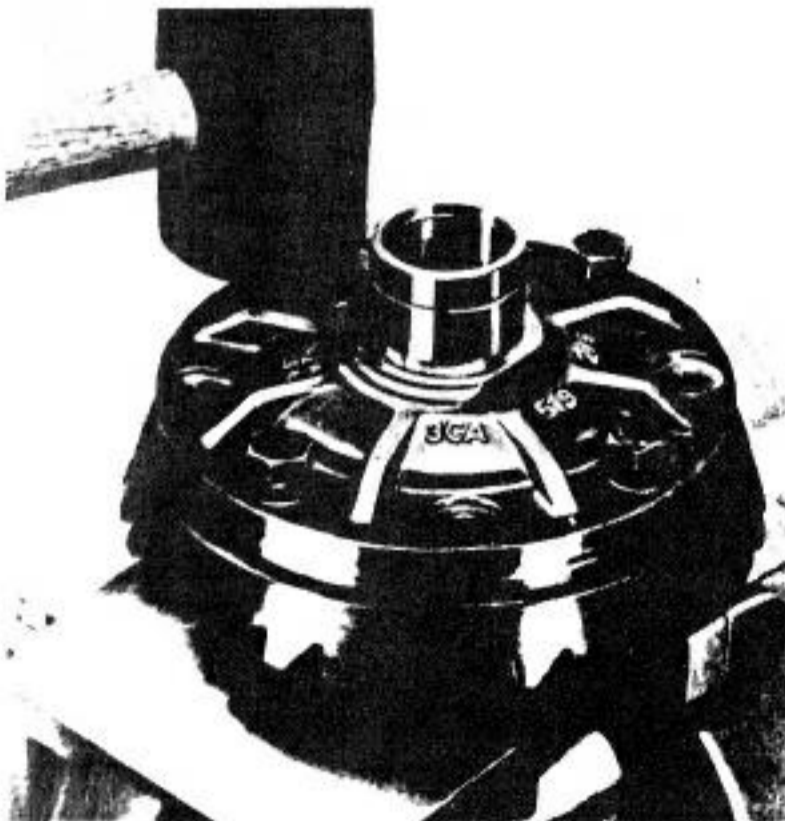

Fig. 11-20. Knocking ring gear loose.
2. Clamp the differential housing in a vise with soft jaw covers. Take out the ring gear bolts and knock the ring gear loose with a rubber mallet. Either put rags under the ring gear to soften the fall or, as in Fig. 11-20, leave three bolts loosened but still threaded so they will catch the gear when it comes loose.